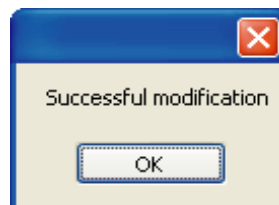

Fig.4-21
- b、 Modify wired controller: Select an existing wired controller (by click the drop down list of the KJR Address at the left Chart or by click the drop down list of the KJR Address at the right), and re-fill the wired controller name and click “Save” to finish the wired controller modification(see Fig. 4-21). KJR Name could not empty or pure blank character string (pure blank charcter string is composed by space and tab)